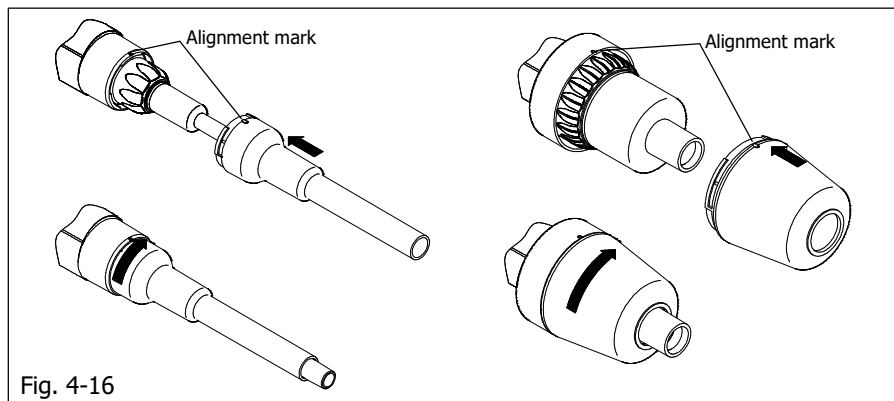

Fig. 4-16
- 2) Attach the ejector pipe so that the alignment marks are aligned, and turn it in the direction of the arrow until it clicks. (Fig. 4-16)